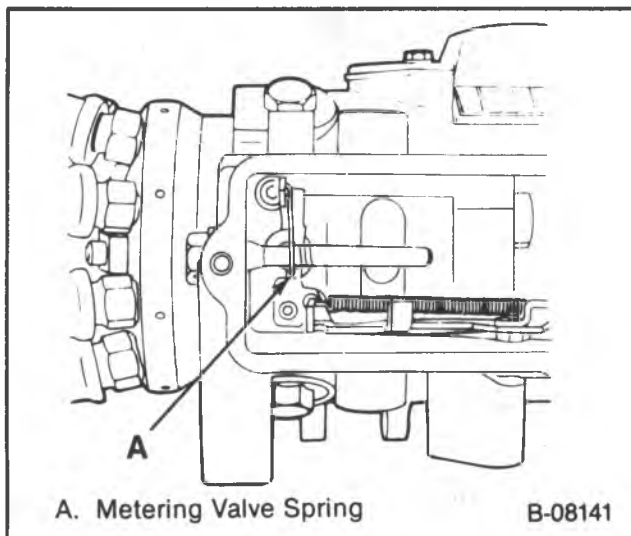

Figure 17 — Metering Valve Spring Position
Remove or Disconnect (Figure 17)
- Observe the position of the metering valve spring over the top of the guide stud (figure 17). This position must be exactly duplicated during assembly.
Remove or Disconnect (Figures 17 and 19)
Remove or Disconnect (Figures 17, 19 and 20)